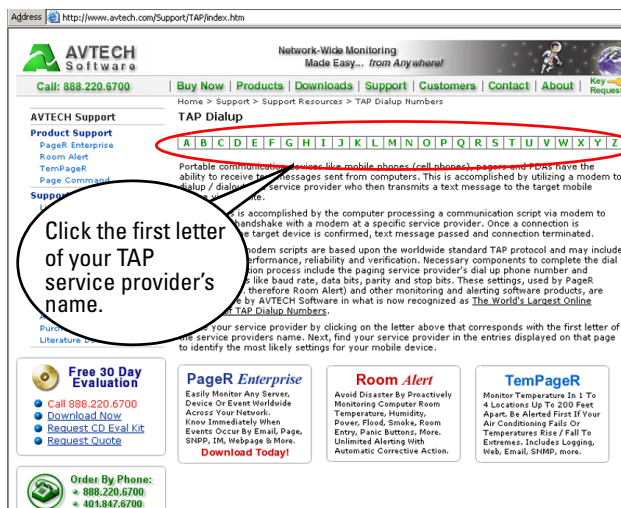

Figure 3-4 TAP Service Provider Screen
- a. To find this number, go to <http://www.avtech.com/Support/TAP/index.htm> (Figure 3-4).